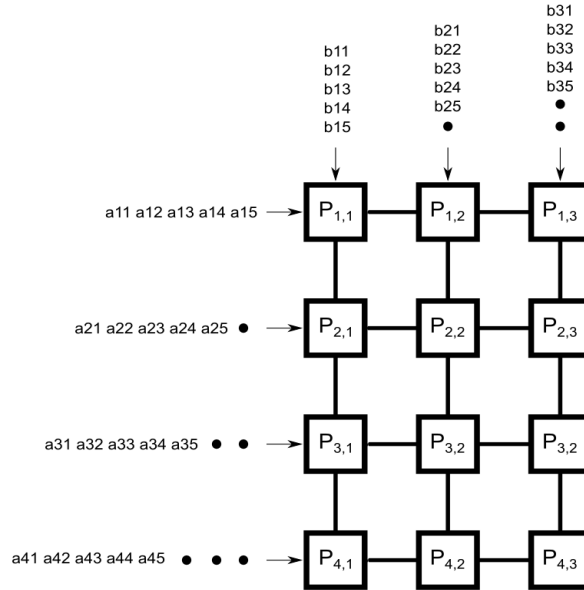

Figure 1: Example of processors arranged in mesh configuration
Mesh Multiplication (MM) is parallel matrix multiplication algorithm which for matrix \mathbf{A} ($m \times n$) and matrix \mathbf{B} ($n \times k$) uses processors arranged into $m \times k$ mesh configuration. Mesh rows are numbered $1, \dots, m$ and mesh columns $1, \dots, k$. Matrices \mathbf{A} and \mathbf{B} are fed into boundary processors in first column and first row of mesh processor grid. This is visualized on example mesh grid, for matrix \mathbf{A} of size $m = 4, n = 5$ and matrix \mathbf{B} of size $n = 5, m = 3$ on figure 1. Matrix \mathbf{A} i -th row lags behind row $i - 1$ for $2 \leq i \leq m$, similarly matrix \mathbf{B} j -th column lags behind column $j - 1$ for $2 \leq j \leq k$. This way value $a_{i,s}$ from matrix \mathbf{A} , and value $b_{s,j}$ \mathbf{B} arrive in $P(i, j)$ processor at the same time and where they will be multiplied. Product of such multiplications $1 \leq s \leq n$ is accumulated in each processor in $c_{i,j}$ element. After n multiplications in $P(i, j)$, element $c_{i,j}$ holds value of computed product matrix \mathbf{C} . Overall processing of arrived value pair a and b , in process or $P(i, j)$ is following. Multiply a and b and add computed product to $c_{i,j}$, then send a to the right process $P(i, j + 1)$ unless $j = k$, and similarly send b to the bottom process $P(i + 1, j)$ unless $i = m$.